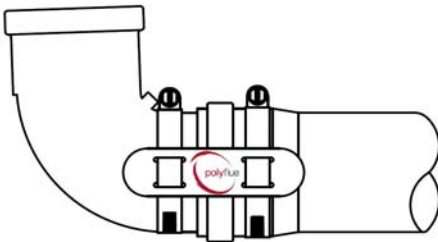

Figure 3
4. See Figures 3 & 4 showing connections to elbows & tees.